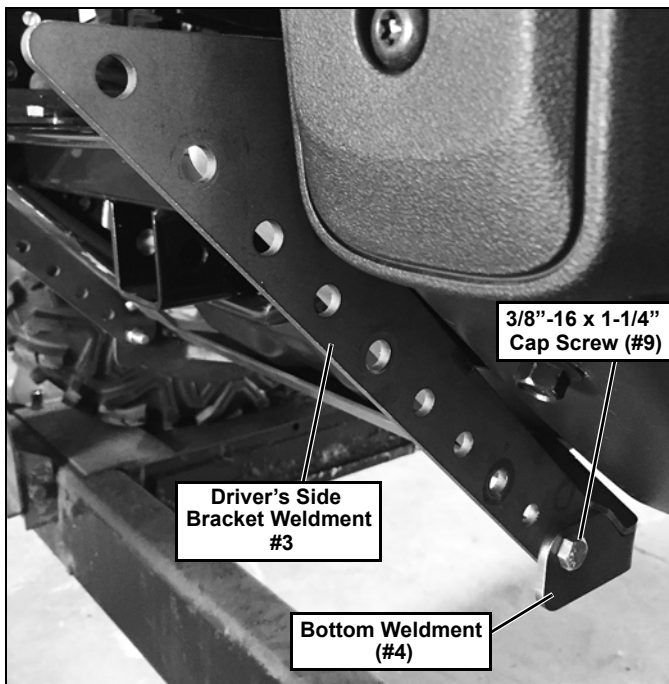

Figure 4
4. Insert (1) 3/8\"-16 x 1-1/4\" Cap Screw (#9) into the side hole of the Bottom Weldment (#4) and into the Driver's Side Bracket Weldment (#3). Secure with (1) 3/8\"-16 Lock Nut (#10). (See Figure 4.)